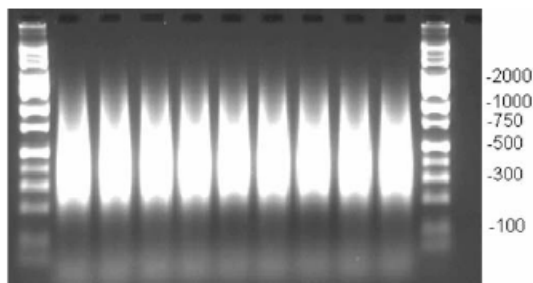

Figure 2. Example of PCR products run on 2% TBE agarose gel at 120 V for 1 h.
33. Verify that the PCR product distribution is between ~200 bp to 1,100 bp (example of gel below, Figure 2).